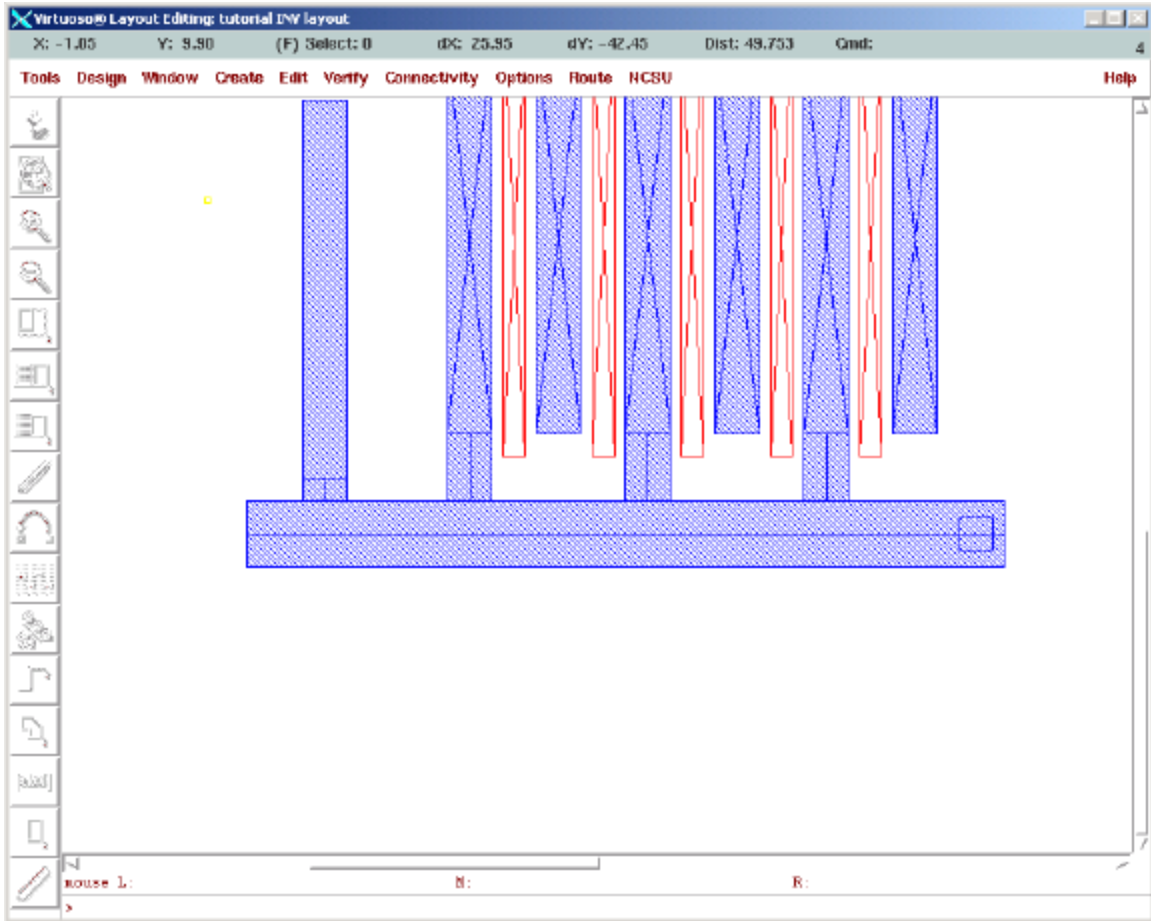

Figure 80: Connect Sources of the NMOS Transistors and ptap.
3. Repeat the same process the Sources of the NMOS transistors (Figure 80).